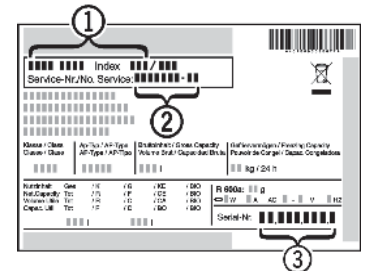

Fig. 14
- ▶ Notify a qualified service provider, specifying the fault, appliance designation *Fig. 14 (1)*, service no. *Fig. 14 (2)* and serial *Fig. 14 (3)* no.